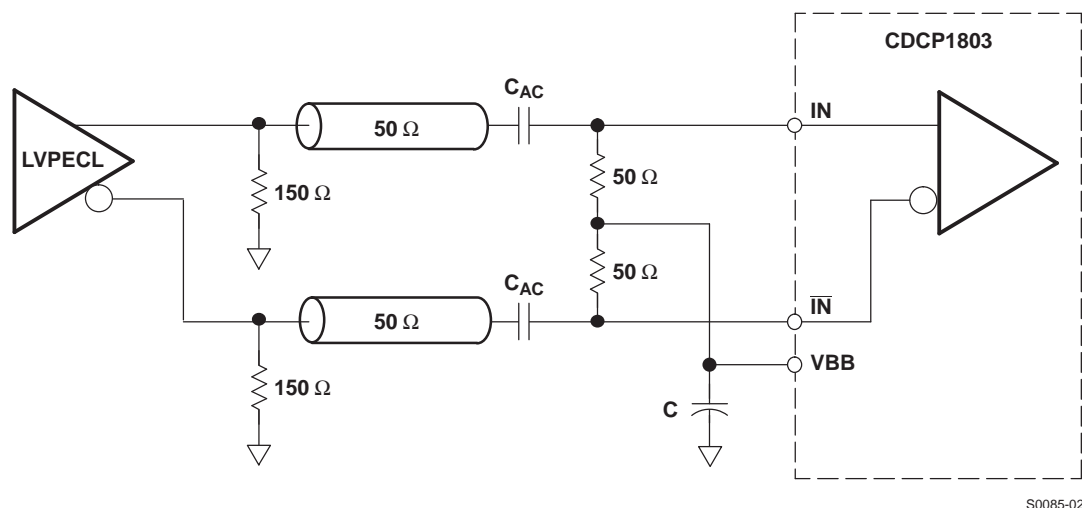

Figure 9. Recommended AC-Coupling LVPECL Receiver Input Termination
For optimized noise performance, it is recommended to properly terminate the PCB trace (transmission line). If a differential signal drives the CDCP1803, then a 100- Ω termination resistor is recommended to be placed as close as possible across the input terminals. An even better approach is to install $2 \times 50\text{-}\Omega$ resistors, with the center tap connected to a capacitor (C) to terminate odd-mode noise and make up for transmission line mismatches. The VBB output can also be connected to the center tap to bias the input signal to ($V_{DD} - 1.3\text{ V}$) (see Figure 9).